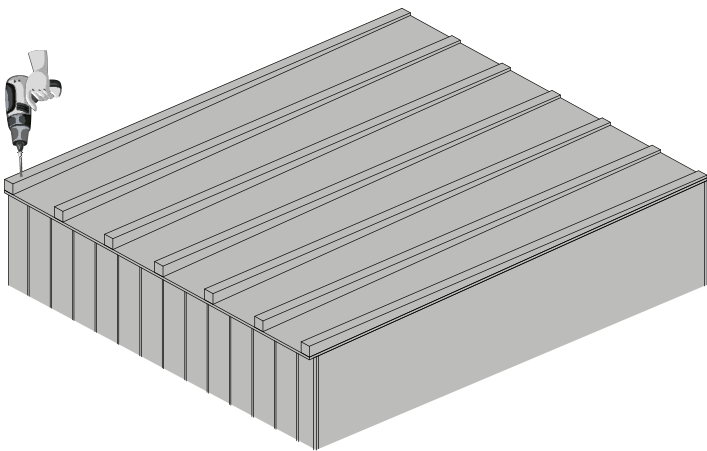

Figure13
- 18) Attach the wooden poles to the top of the roof with screws (see figure 13).